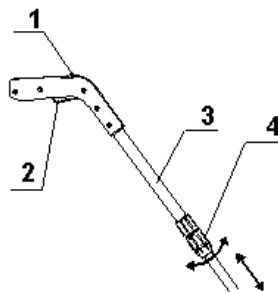

Figure 3
1. Hold the telescopic handle (3) with one hand and unscrew the adjusting nut (4), see figure 3.
3. Push the safety switch (1) forward and press the power switch (2).